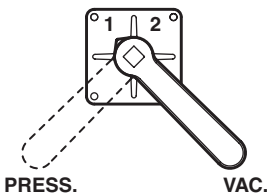

Fig. 12
- Set in open position all the valves of the vacuum line. Start the pump slowly for a few seconds in order to check the rotation direction. Check the right functioning of the air-flow change-over valve (vacuum/pressure) fig.12.